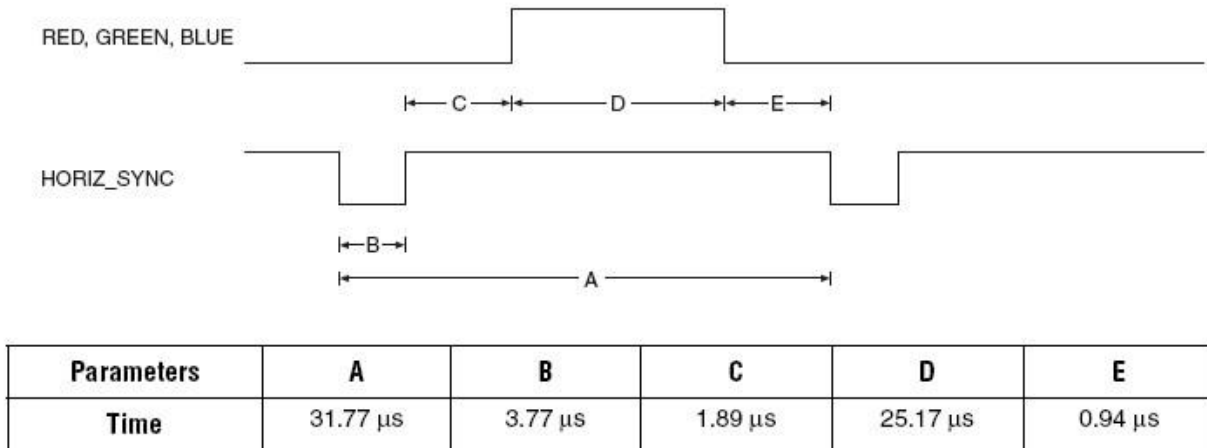
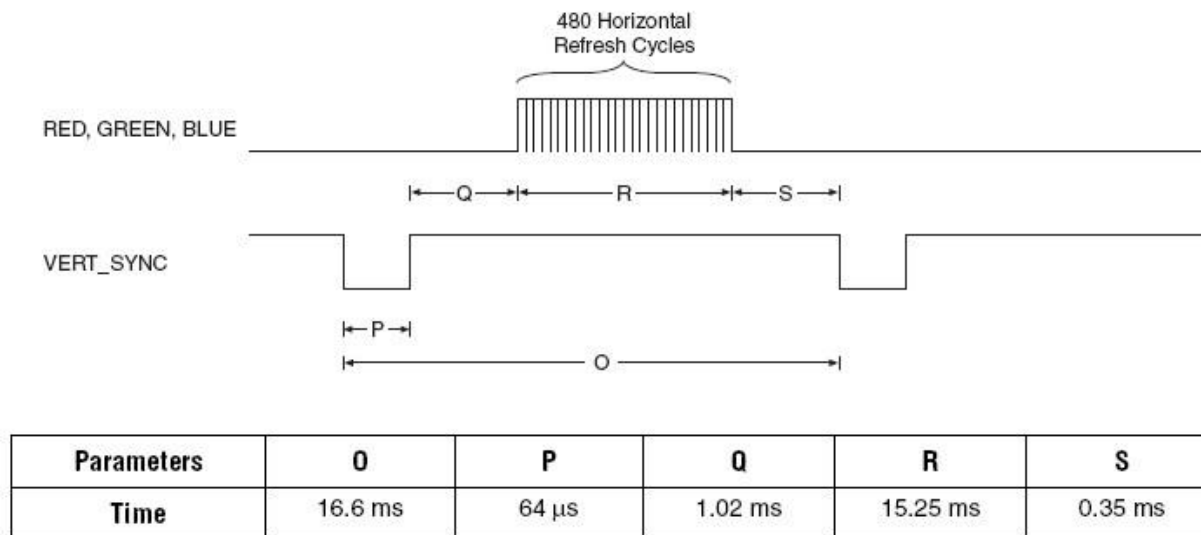

Figure 1. Horizontal Refresh Cycle.
Figure 2. Vertical Refresh Cycle.
The VGA monitor connector on the ALTERA DE10-lite board consists of five signals, RED(4 bits), GREEN(4 bits), BLUE(4 bits), **HORIZ_SYNC**, and **VERT_SYNC**. Look into the user manual for the header pin outs for these 5 signals. The timing relationships among this signal are shown in **Figures 1 and 2** at the end of this lab document. The generation of signals needed for the raster on the VGA monitor begins with dividing the frequency of the 50 MHz clock on the ALTERA DE0 board down to a 25 MHz pixel clock which is further divided down to the horizontal and vertical sync frequencies. This means your design will contain a **horizontal counter** and a **vertical counter**. The horizontal and vertical sync pulses of appropriate lengths are then produced from the two counters.
Horizontal and vertical synchronization. A video display consists of 640 pixels in the horizontal direction and 480 lines of pixels in the vertical direction. The monitor starts each refresh cycle by updating the pixel in the top left-hand corner of the screen, which can be treated as the origin (0,0) of an X-Y plane. After the first pixel is refreshed, the monitor refreshes the remaining pixels in the row. When the monitor receives a pulse on the **HORIZ_SYNC** pin, it refreshes the next row of pixels. The time required for the sweep, the horizontal sweep period, is nominally 31.77 μ s. This process is repeated until the monitor reaches the bottom of the screen. When the monitor reaches the bottom of the screen, a 64 μ s pulse applied to the **VERT_SYNC** pin causes the monitor to begin refreshing pixels at the top of the screen (i.e., at [0,0]). As shown in Figure 2, the **VERT_SYNC** pulse must be repeated every 16.6 ms (vertical sweep period). A complete screen of information is traced by the electron beam every 16.6 ms for a refresh rate of 60 Hz.
Blanking intervals. In order to accommodate the time required to move the electron beam back to the left side of the screen (horizontal retrace period) the electron beam must be turned off during the retrace time or the return trace would be visible. This is accomplished by two blanking intervals during the horizontal refresh cycle marked by B and C at the beginning of the trace and E at the end of the trace in Figure 1. Similar blanking intervals are required during vertical refresh (P, Q, and S in Figure 2). The color beams are turned on only when the horizontal counter is in the period D and the vertical counter is in period R.
- A value of zero on Hcount corresponds to the beginning of section D in Figure 1.
- A value of zero on Vcount corresponds to the beginning of section R in Figure 2.